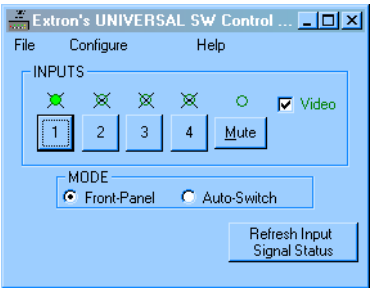

Figure 3-4 — The Universal Switcher program window
- 3. The Extron Universal Switcher Control Program window (figure 3-4) displays the selected input and panel mode (Front-Panel [normal] or Auto-Switch).